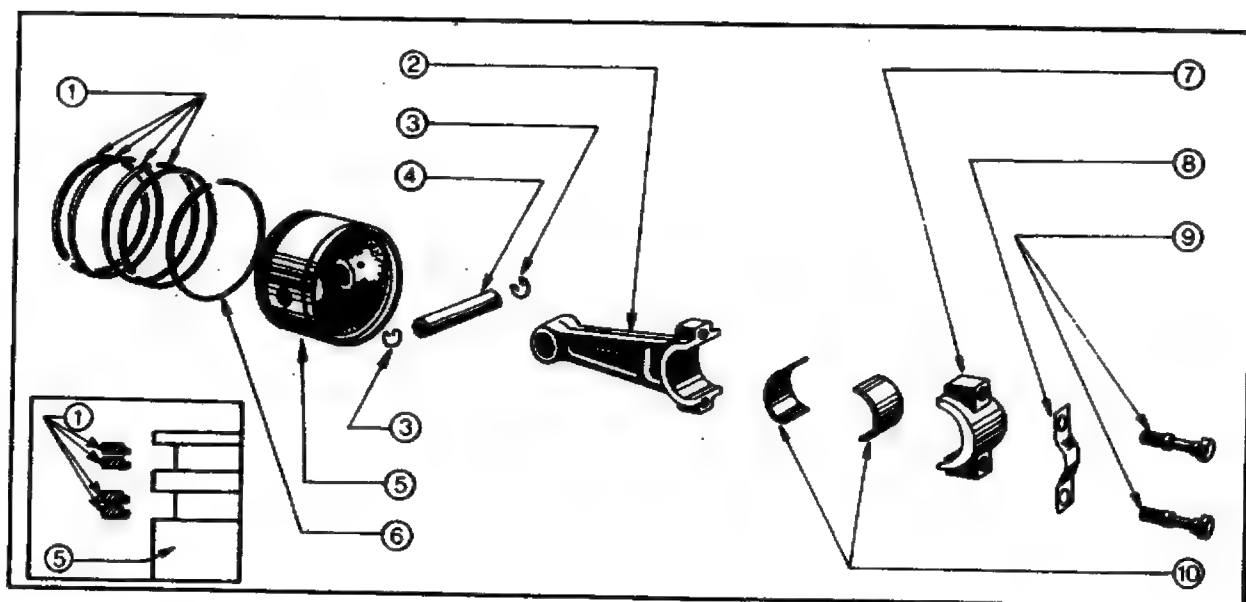

Fig. 9
6. Remove the piston from the connecting rod assembly (see Fig. 9).